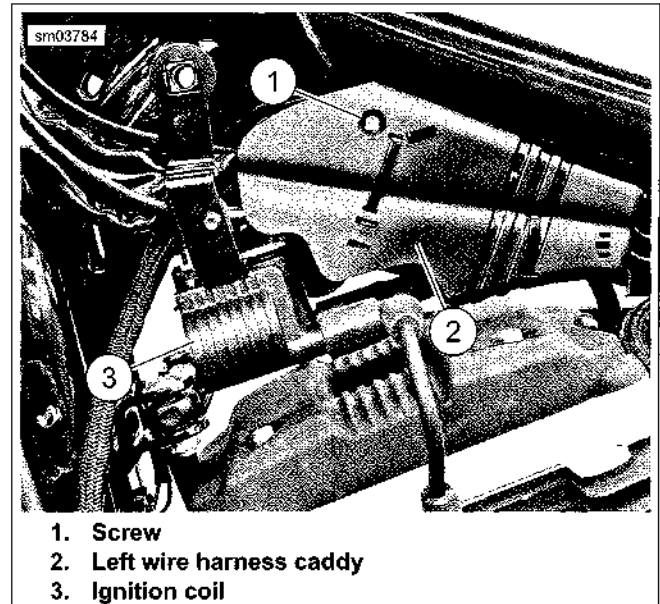
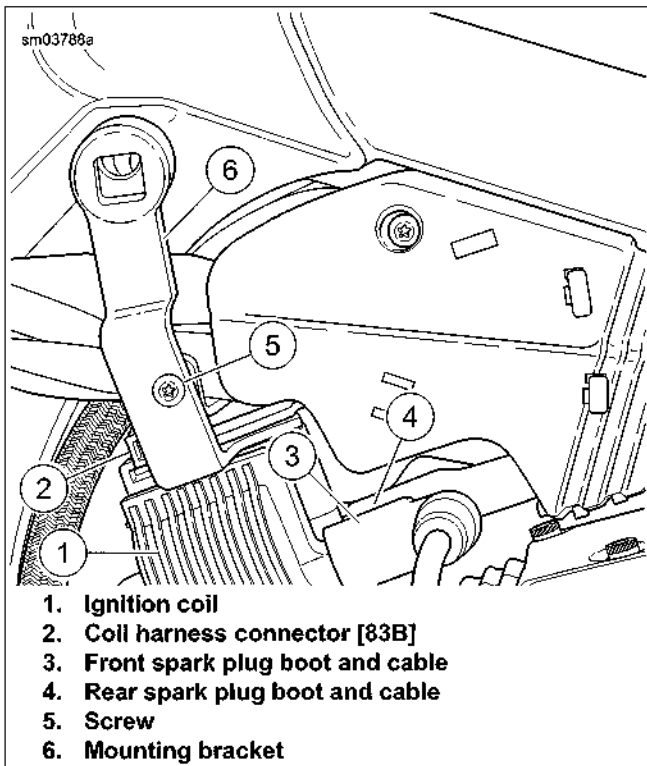
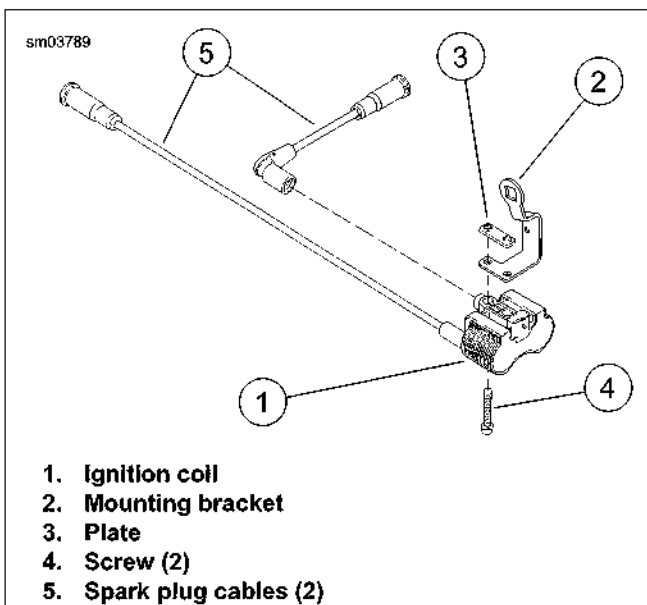

Figure 6-29. Ignition Coil and Left Wire Harness Caddy
Figure 6-30. Ignition Coil Mounting and Connections
Figure 6-31. Ignition Coil Mounting: XL Models Only
5. See Figure 6-29. Remove screw (1) securing left wire harness caddy (2) to right wire harness caddy. Carefully disengage left wire harness caddy. Pull caddy away from frame backbone.
6. See Figure 6-30. Unplug coil harness connector [83B] (2) from ignition coil (1).
8. Pull front spark plug boot and cable (3) from left ignition coil tower.
9. Pull rear spark plug boot and cable (4) from right ignition coil tower.
10. Remove screw (5) securing coil bracket (6). Remove coil and bracket from vehicle.
11. See Figure 6-31. Remove two screws (4) to separate ignition coil (1) from mounting bracket (2) and plate (3).
1. See Figure 6-31. Position new ignition coil (1) on underside of mounting bracket (2).
2. Fasten coil to mounting bracket with two screws (4) and nut plate (3). Tighten to 24-72 in-lbs (2.7-8.1 Nm).
3. See Figure 6-30. Install coil:
- a. Slide coil (1) with mounting bracket (6) into position.
- c. Secure bracket with screw (5). Tighten to 35-45 in-lbs (4.0-5.1 Nm).
- a. Front spark plug cable (3) to left side of coil
- b. Rear spark plug cable (4) to right side of coil
6. See Figure 6-29. Mate left wire harness caddy (2) to right wire harness caddy. Secure with screw (1) and tighten.